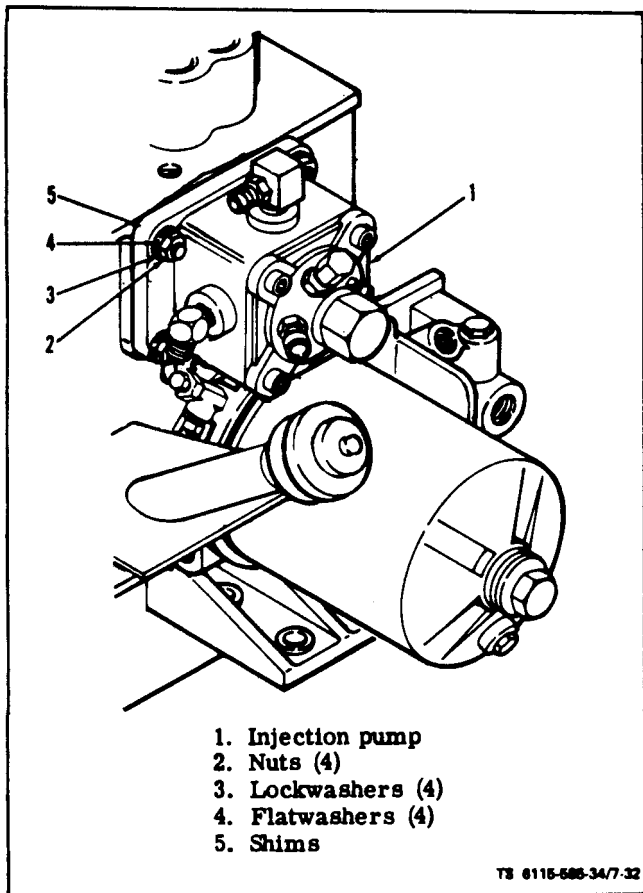

Figure 7-32. Injection Pump
a. Removal (see figure 7-32). On ASK equipped generators, refer to Operator and Organizational Maintenance Manual and remove top panel end right panel assemblies.
(1) Snap off governor linkage from injection pump (1), and governor control arm and remove linkage.
(3) Remove four hexagon nuts (2, figure 7-32), lockwashers (3), and flatwashers (4) holding pump (1) to crankcase and lift pump off crankcase. Be careful to retain the shims (5) between the crankcase and pump. The correct thickness of shims as stamped on the crankcase is important to proper pump operation; it provides the proper gear lash. **This thickness does not change when a new pump is installed. It changes only when a new cylinder block is installed. To calculate new shim thickness measure between camshaft and engine block pump mounting surface. Subtract that measurement from 1.171 inches. This will be the shim thickness. Refer to figure 7-33A. Use Gage, Depth, Micrometer NSN 5210-00-542-4602 for this measurement.**